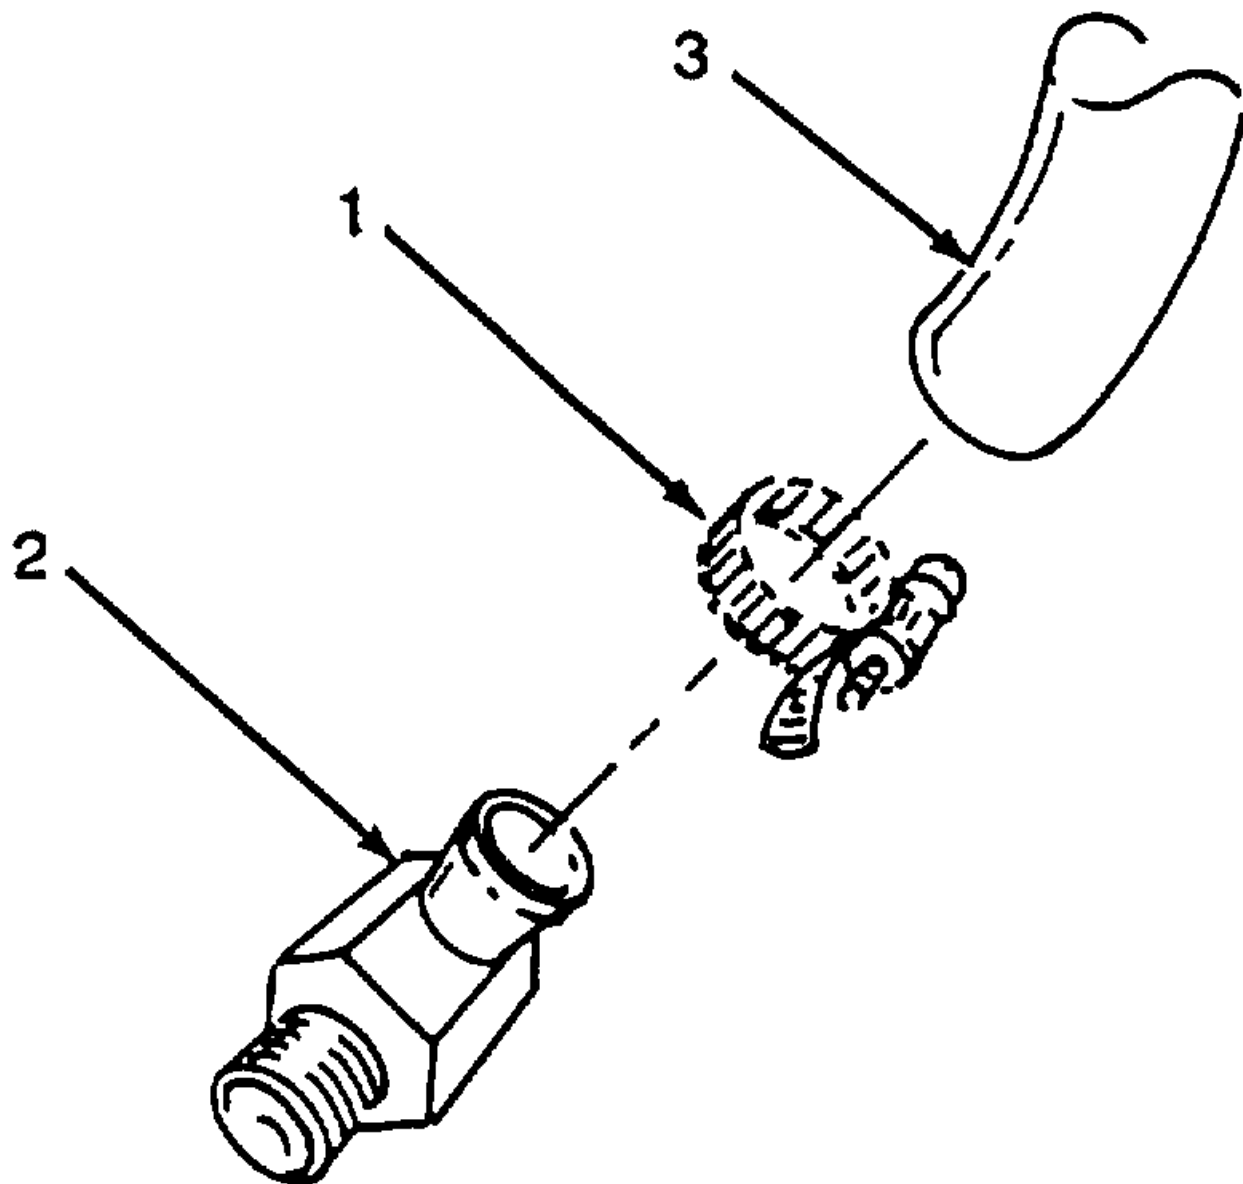

Figure 4-22. Hose, Drain Extension.
**4-31. HOSE, DRAIN EXTENSION (Figure 4-22).**